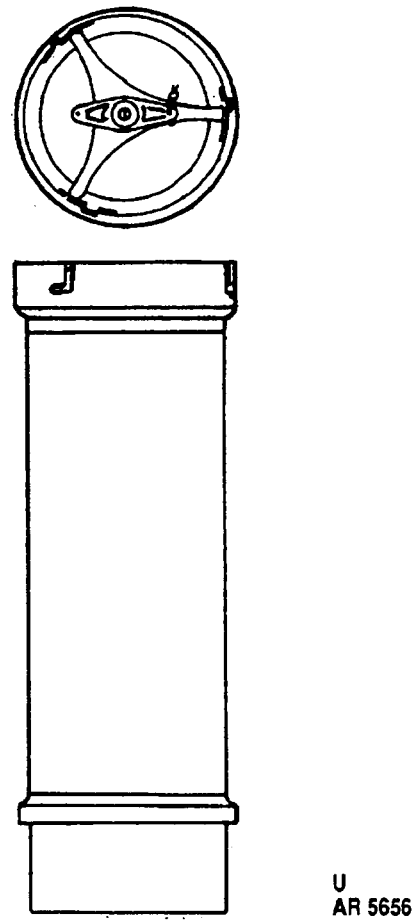

Figure 3-10. Metal Container (PA 64) for 152mm Ammunition.
3.3.14 Metal Container (PA64) for 152mm Ammunition (fig. 3-10).